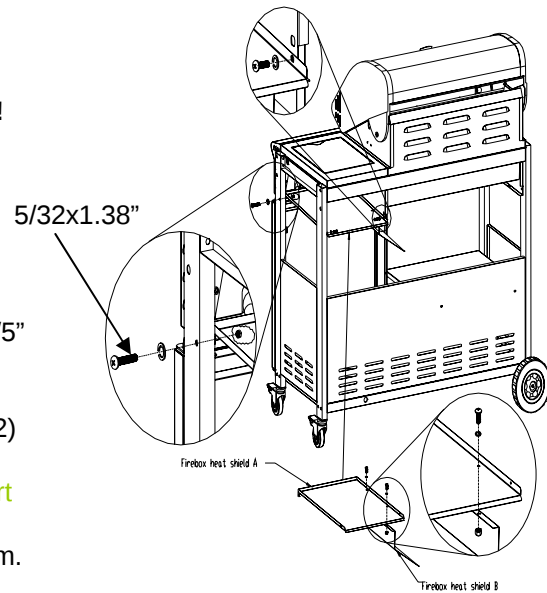

Figure 12
4. Secure using (2) $\frac{5}{32} \times \frac{2}{5}$ " Phillips head screw and (2) $\frac{5}{32}$ " nuts with (2) $\frac{5}{32}$ " lock washers attach the side burner heat shield and firebox heat shield together. **Insert (4) $\frac{5}{32} \times \frac{2}{5}$ " Phillips head screw** with (4) $\frac{5}{32}$ " lock washers attach these Shield on the leg and firebox bottom. See (Fig 12.)